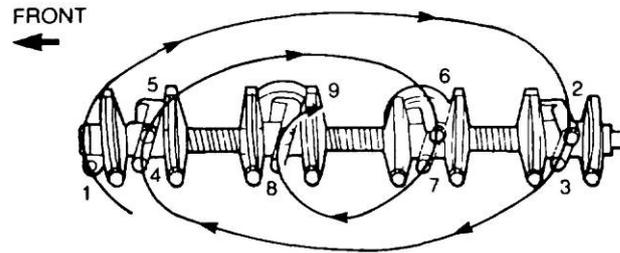

Figure 33 Removal of the Rocker Shaft
- r. Slacken the rocker shaft retaining bolts and nuts in sequence (Figure 33) and remove the bolts, nuts and rocker shaft assembly.